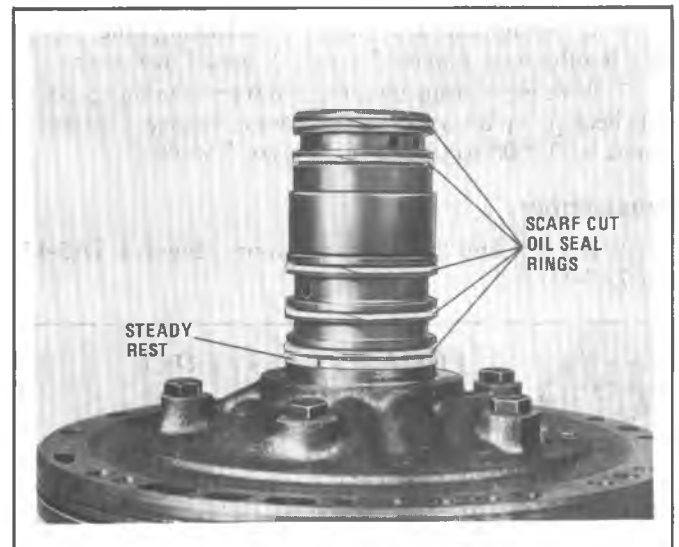

Figure 7A5-45 Pump Tower
5. Remove pump cover and stator shaft assembly from pump body (Figure 7A5-45).